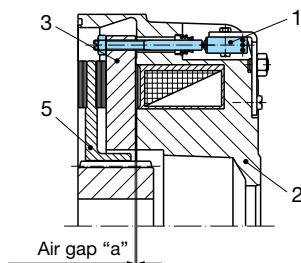

Fig. 2
- Microswitch for wear indication (wear monitoring), Fig. 2